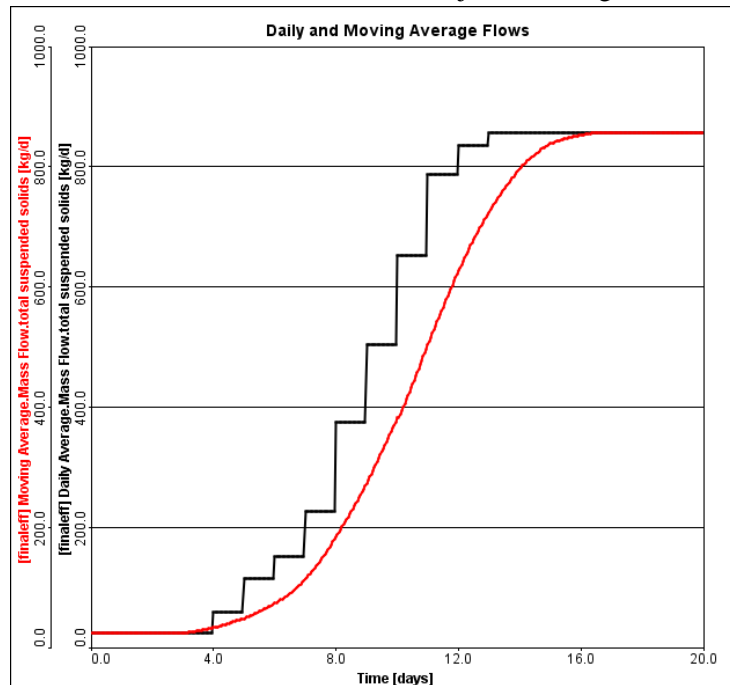

Figure 8-14 – Moving and Daily Averages Output Graph
42. **Run the model** and change the influent flow rate to observe the moving and daily averages. For example, running the model with the following controller settings provides the graph displayed in **Figure 8-14**. Note that your output graph will look different depending on how the control slider for the influent flow is adjusted during the simulation.